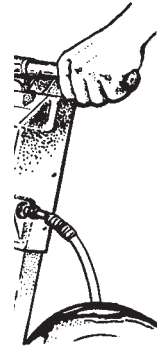

Figure 5
3. Insert control link into notch and slide collar to pin. Raise sanding drum with control lever. See figure 5 & 6.